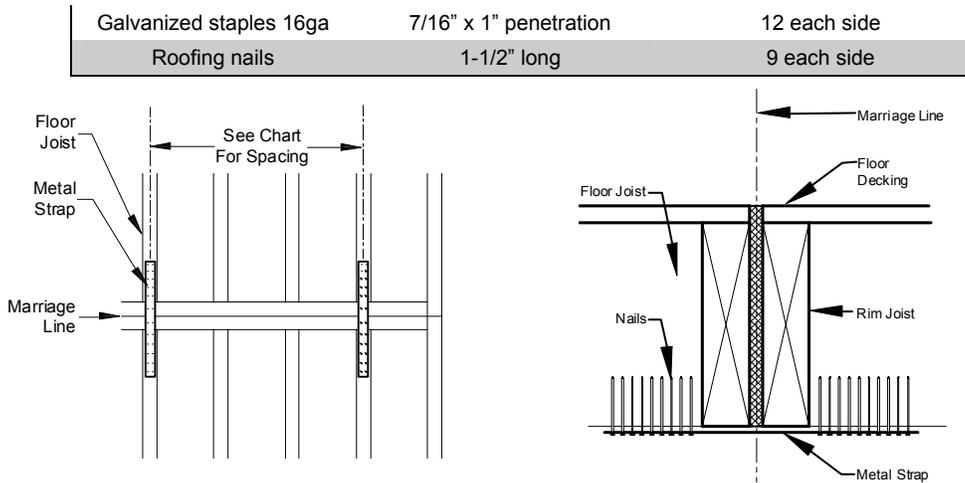

Figure 28. Metal strapping for Wind Zones II and III
- In Wind Zones II and III, fasten metal straps of minimum 26 gauge, 1-1/2" wide galvanized steel spaced per Table 15 and fastened per Table 16 to the underside of the floor joists (Figure 28). Select a strap length sufficient to hold the required fasteners. Straps are not required in Wind Zone I.